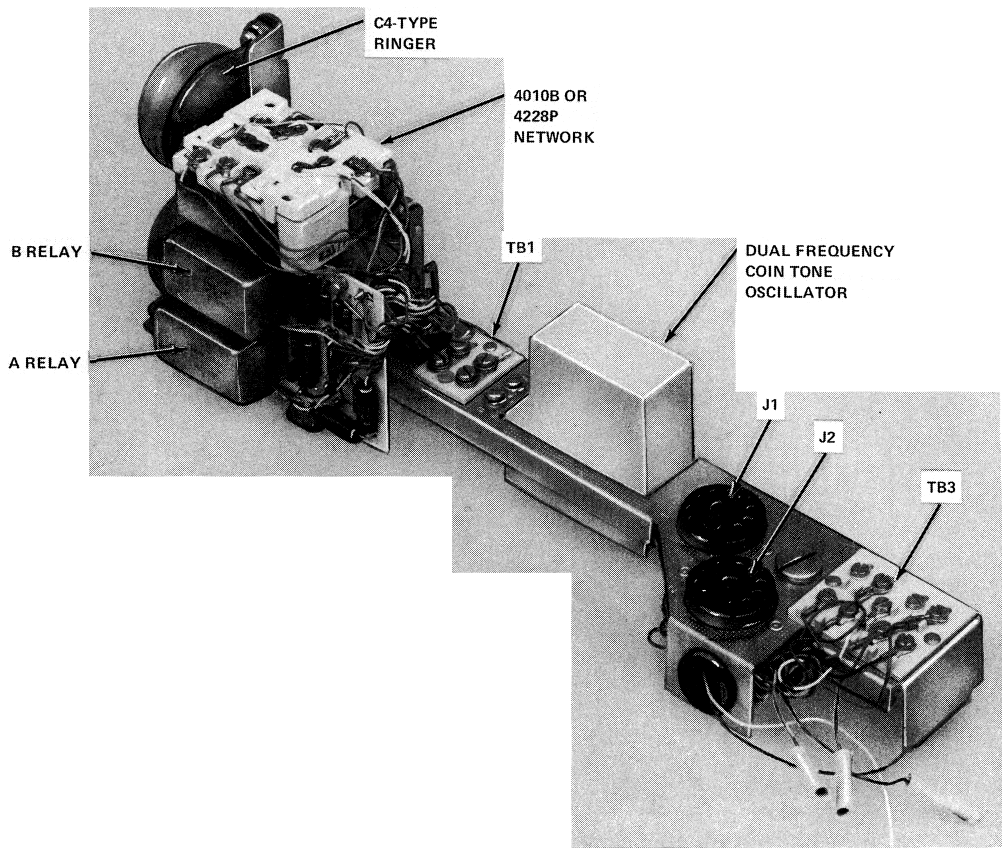

Fig. 6—31A Coin Chassis
- (1) Nickel—1 beep tone
- (2) Dime—2 beep tone
- (3) Pulsing rate—5-8.5 PPS.
D. Coin Chassis (Fig. 6)